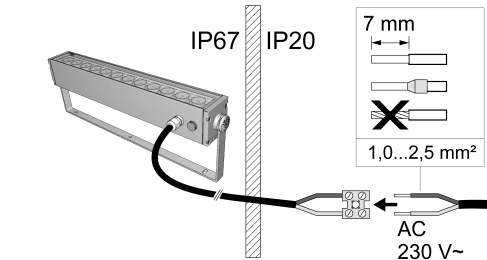

Figure 5: Connection with screw terminal
- Prepare the connecting cable according to the drawing and make the electrical connection (Figure 5). Observe connection assignment (see table).